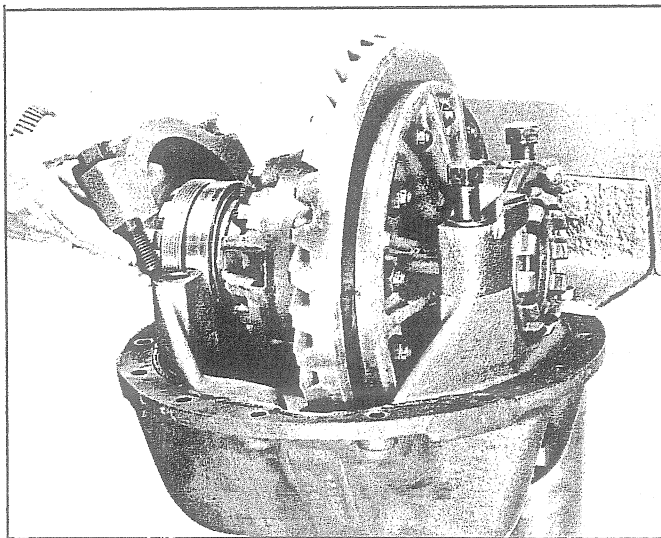

Fig. 48 - Removing Bearing Cap
4. Remove retaining bolts and lift caps off the carrier as shown in Fig. 48.